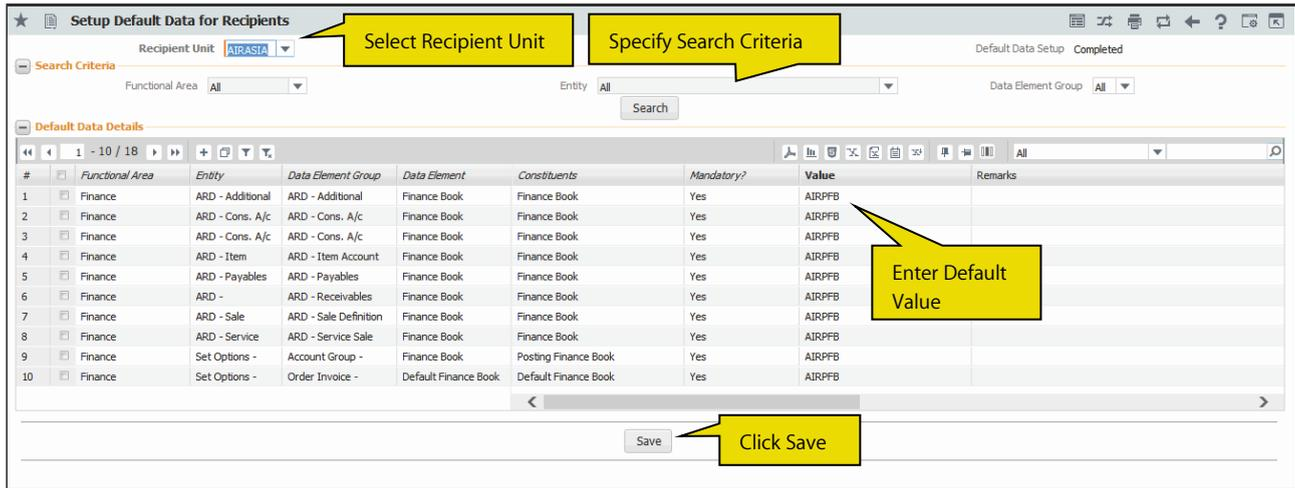

Figure 2.5 Setting default data for recipients
1. Select the Setup Default Data for Recipients activity under the Central Data Replication Configurator business component. The **Setup Default Data for Recipients** page appears. *See Figure 2.5.*